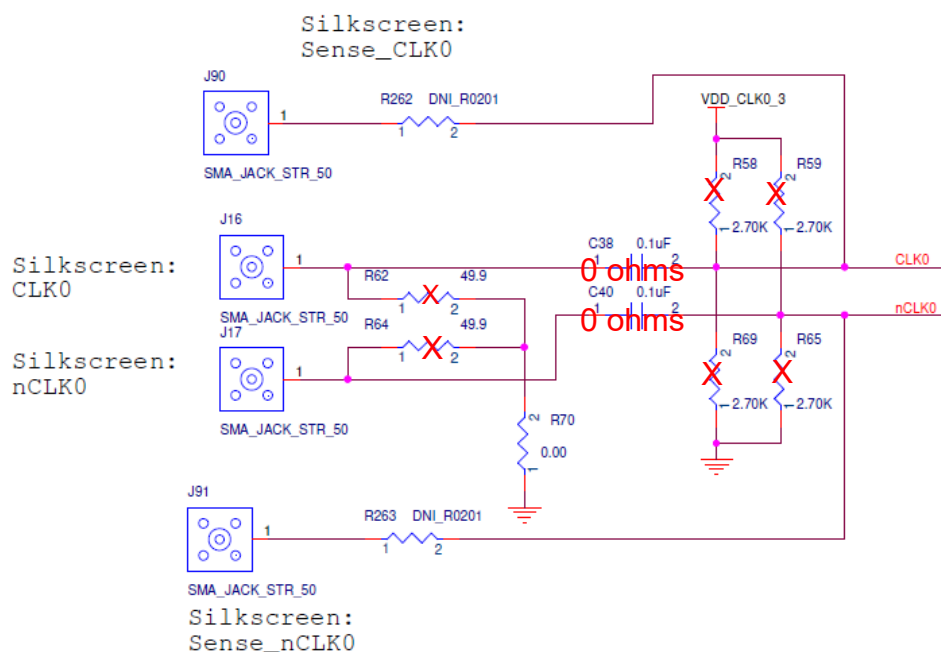
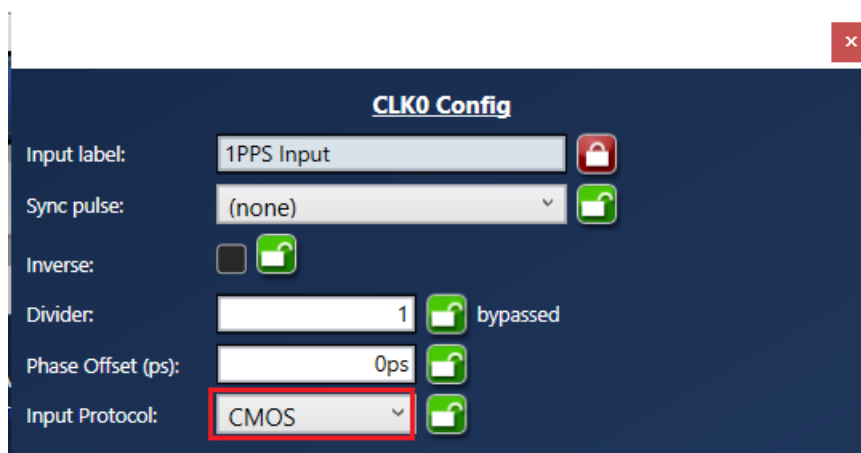

Figure 3. Input Clock's AC-Coupling and Terminations
Figure 4. Configuring CLK0 as CMOS to Receive a 1PPS Input
For a 1PPS input, a single-ended input with DC-coupling is recommended. As such, the populated ac-coupling capacitor must be removed and the input must be configured as LVCMOS, not differential. In Figure 3 above, to make CLK0 supportive of 1PPS input, first configure CLK0 as LVCMOS in Timing Commander (see Figure 4 below).
1. Power up the board and set the main serial port in I2C mode by GPIO9 = "high". Refer to Figure 4 for the position of GPIO9. Connect the board to PC.